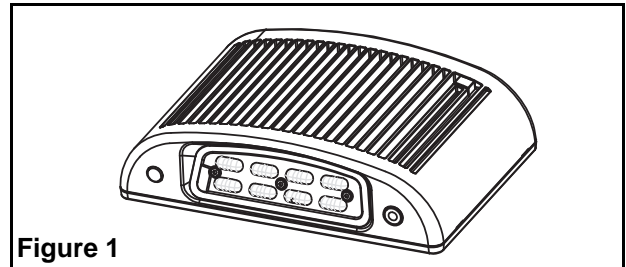

Figure 1
1. Open front cover and remove the 1/2 inch NPT plug on the top flange of the fixture (see figure 1 and 4).